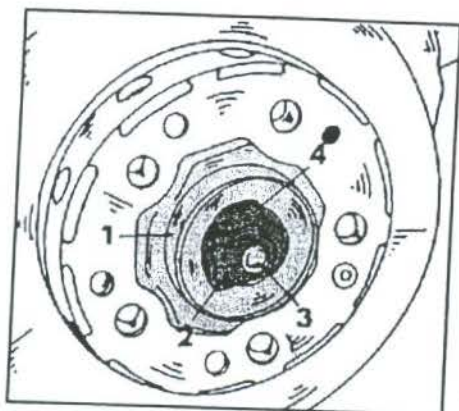

Fig. 4.11 – Details for the front wheel bearing adjustment.
- Refer to Fig. 4.11 and slacken the socket head clamp bolt for the nut (2). Rotate the wheel hub evenly and at the same time tighten the clamp nut until the hub can just be